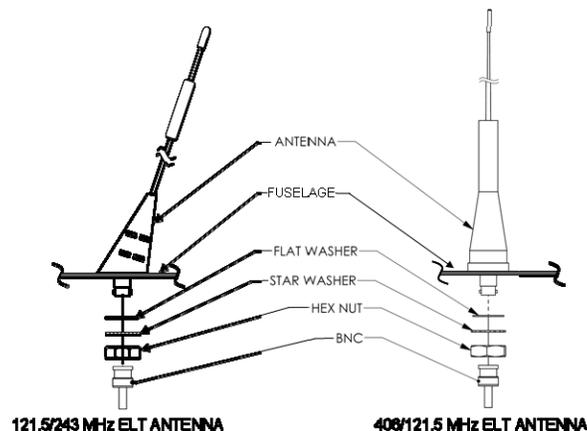

Figure 25-10 Exploded View of ELT Antenna Installations
7. Install the two washers and the nut to secure the antenna to the fuselage. See Figure 25-10.
5. Remove the two bolts, washers, and nuts securing the split nylon cable feed-thru to the baggage bay aft bulkhead. See Figure 25-10.